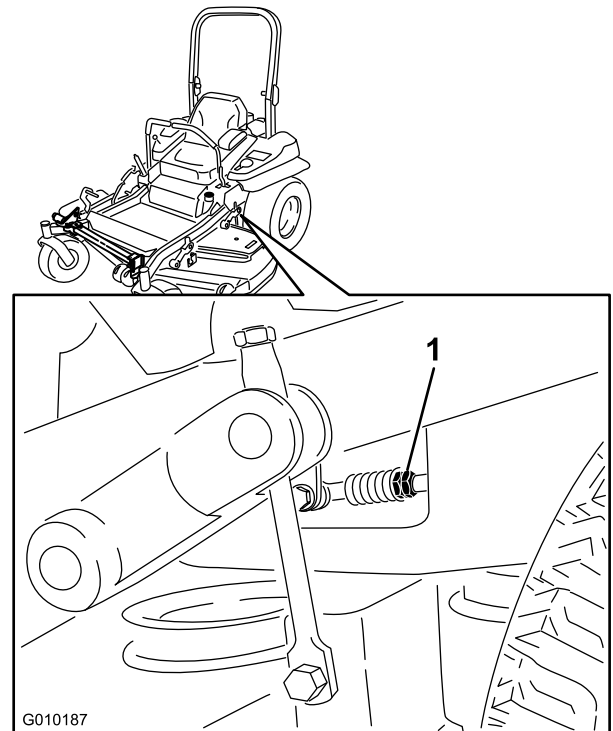

Figure 81
9. Adjust the pump-control-rod lengths by rotating the double nuts on the rod in the appropriate direction until the wheels slightly creep in reverse (Figure 81).